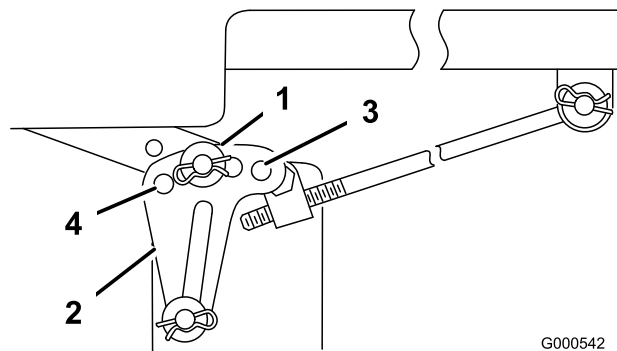

Figure 53
6. Remove the hairpin cotter and washer from the leveling bracket (Figure 53).
7. To level the blade(s), reposition the leveling bracket(s) in a different hole and install the washer and hairpin cotter. (Figure 53). A front hole lowers the blade height and a rear hole raises its height. Adjust both sides as required.